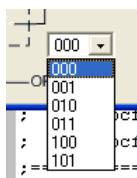

Figure 3-36
- (1) Click the network by mouse, OP0N can select the specified network.
- (2) Click the network switch by mouse, OP0N can select the specified network.
- (3) Click the mouse, a menu as Figure 3-36 will appear. Users can select the specified switch network.